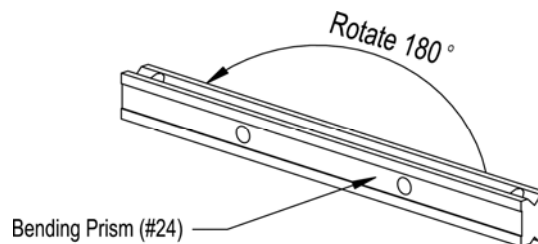

Figure 5 – Rotating the Bending Prism
Step 4: Rotate the BENDING PRISM 180° to use the optional radius as shown in Figure 5. Fit the BENDING PRISM back into the groove.